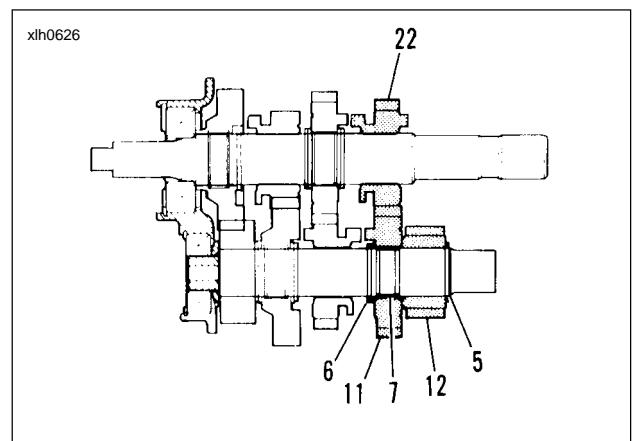

Figure 6-36.
See Figure 6-36. Using RETAINING RING PLIERS (Part No. J-5586) remove and discard retaining ring (5) next to countershaft 5th gear (12). Slide countershaft 5th (12), mainshaft 2nd (22) and countershaft 2nd (11) off end of shafts.